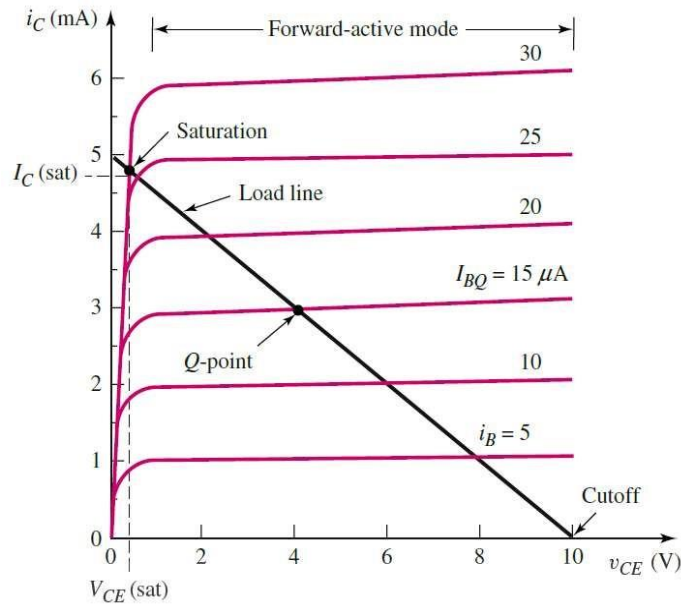

Fig. 5. Typical BJT common-emitter characteristics with a CE amplifier load line.
1. Examine your oscilloscope image from step 2(h) and refer to the BJT common-emitter characteristics in Fig. 5. If the waveform flattens at the top, is the transistor in saturation or cutoff? If the waveform flattens at the bottom, is the transistor in saturation or cutoff?